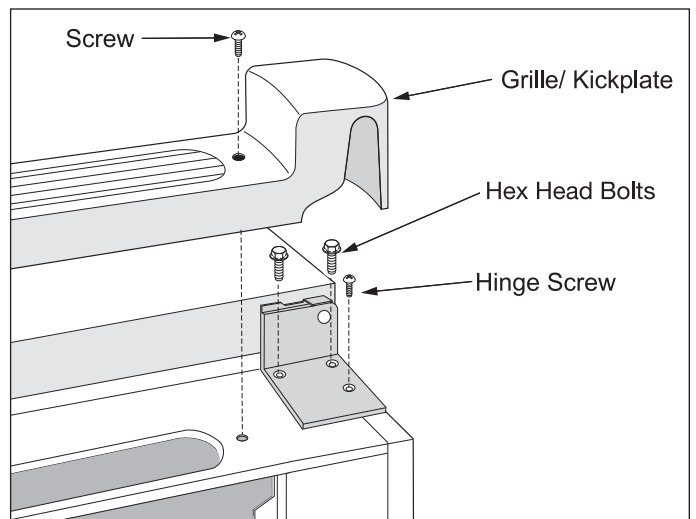

Figure 6-37. Lower Hinge Removal
5. Using a 3/8" socket or wrench, extract the two bolts securing the lower hinge to the unit frame. Use a phillips head screwdriver to extract the remaining screw from the lower hinge assembly. (See Figure 6-37)